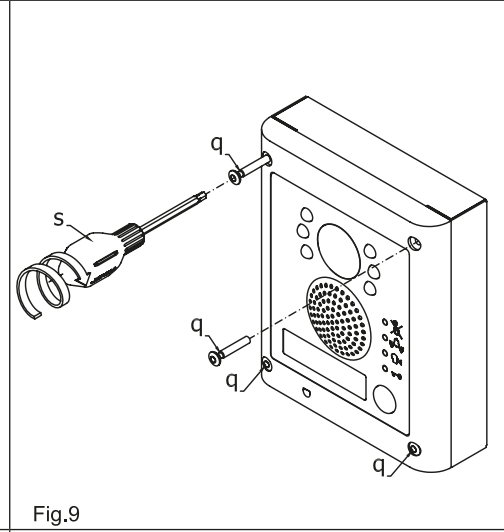

Fig.9
8. When the system has been tested and is working correctly, move back the module support frame carefully, fix it to the surface box using the provided screwdriver **s** (blade torx side) and the pin machine torx screws **q** as shown in figure 9. **Note: do not over tighten the screws more than is necessary.**